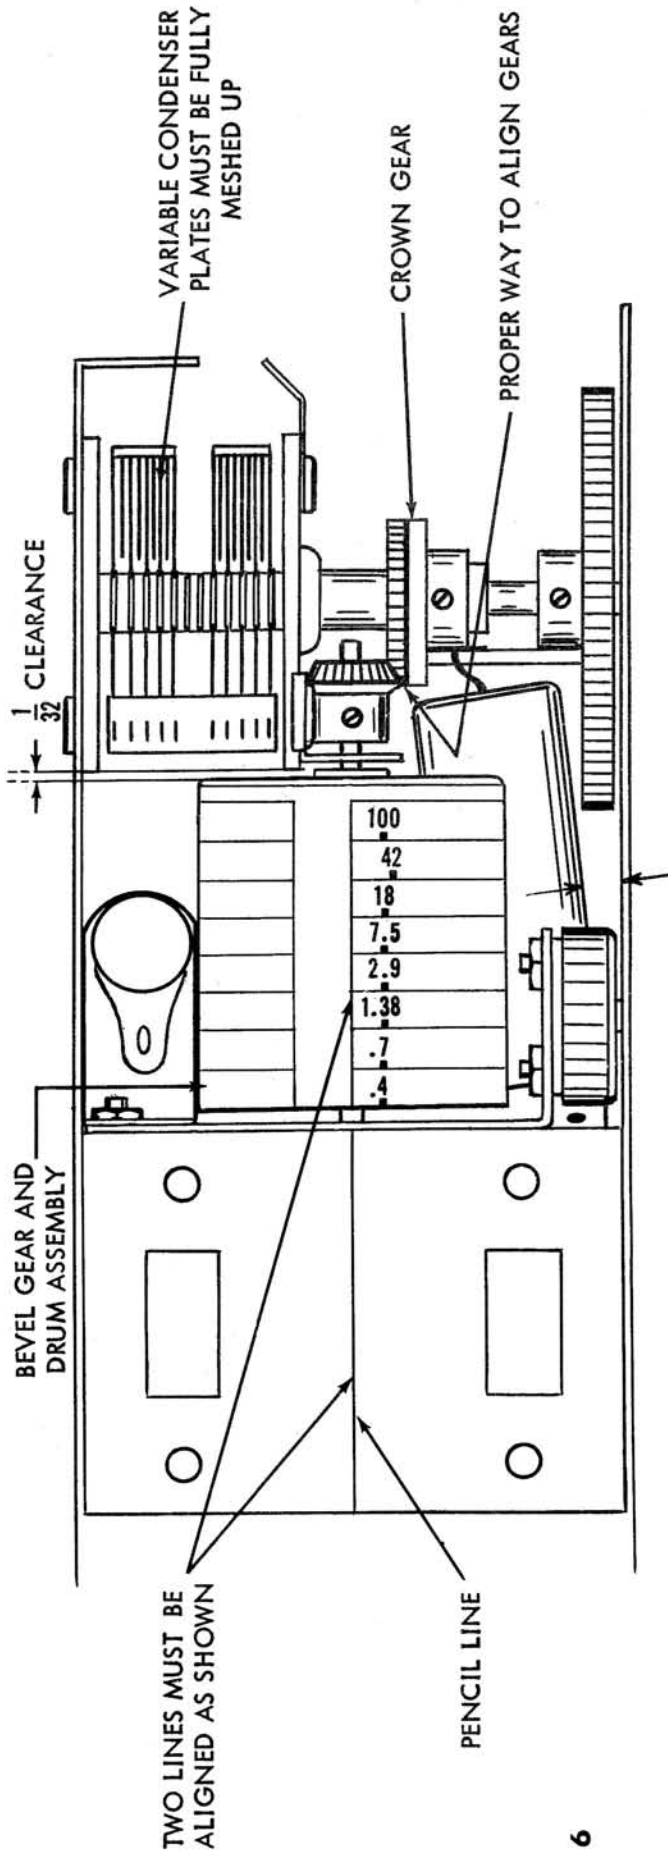
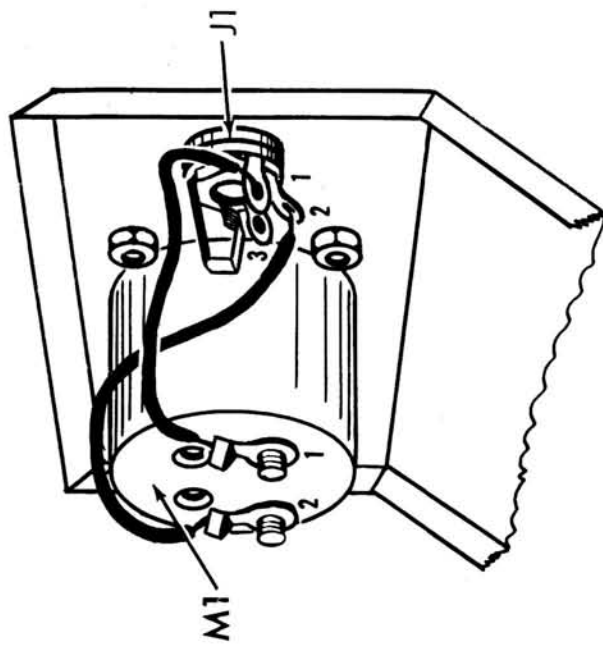

Fig. 6
Fig. 7
- ( ) 1. Fig. 6.  $1/8$ " from either edge of the top of the "U" shaped bracket, draw a line perpendicular to the variable capacitor. This is at the center of the bracket.
- ( ) 2. Fig. 6. Loosen completely the two screws holding the "U" bracket to the main chassis. The nuts should be held onto the screw with several threads.
- ( ) 3. Fig. 6. Push a spring over the thinner portion of the center axle inside the drum assembly. Do not force the spring over the thicker portion of the axle.
- ( ) 4. Fig. 6. With the left hand, push the "U" shaped bracket toward the 4 post terminal strip TB1, mounted on the main chassis. With the right hand, push the axle with the spring on the drum assembly, through the hole "R" in the "U" shaped bracket. See fig. 5 for location of the hole. The spring tends to push the drum assembly towards the variable capacitor.
- ( ) 5. Fig. 6. The capacitor plates must be fully meshed (maximum capacity). Push the drum towards the "U" shaped bracket so that the clearance between the frame of the capacitor and the body of the drum is  $1/32$ ". See fig. 6. Turn the drum so that the beginning of the scale, nearest the .4 mc marking, coincides with the line drawn in step 1, above.
Slip a crown gear over the  $1/4$ " shaft on the variable capacitor. Engage this with the small conical gear, "V", on the drum assembly. Tighten the set screw on the crown gear. Note that the pressure of the conical gear (on the drum) on the crown gear is the force necessary to keep the drum  $1/32$ " from the frame of the variable capacitor. When properly assembled, results will appear as shown in figure 6. Drum will rotate freely with  $1/32$ " axial play compensated by the spring. This is an example of a spring loaded, right angle gear drive which takes out the backlash.
- ( ) 6. Fig. 6. Slip the black tuning knob over the  $1/8$ " shaft on the variable capacitor. Do not tighten the set screw as yet.
- ( ) 4. Fig. 7. Connect a 3 1/4" piece of black wire from J1-2 (S1) to M1-2 (S1). Dress the wire close to the meter body and panel, as shown.
- ( ) 5. Fig. 7. Push the pilot light into the pilot light socket, X11. Place a shield over the pilot light bulb.
- ( ) 6. Fig. 7. Push the 6AF4A tube, V1, into the socket, XV1. The tube is positioned at a slight angle with the chassis, when it fits snugly in its socket.
- ( ) 7. Fig. 7. Unscrew the four screws holding the slide switches, S1 and S2. The panel is mounted to the "U" shaped bracket with these four screws. Slide the black tuning knob, previously mounted on the shaft of the capacitor, so that it fits through the slit marked tuning on the panel. Align the panel so that the inscribed line on the plastic plate, which appears in the center of the trapezoidal cutout, is directly over and parallel to the line used in step 5 referring to figure 6. Tighten the panel to the "U" shaped bracket and the slide switches, using the #4-40 screws just removed from the switches. All controls and both switches should move freely without rubbing or sticking.
- ( ) 8. Fig. 7. Center the black tuning knob in the slit and tighten the screw from the front side of the unit, next to the tube.
- ( ) 9. Fig. 7. Turn tuning knob. Note that it should rotate freely. If it does not, check point of friction. If it hits the side of the tube, bend the tube bracket slightly with a pair of long nose pliers. If it rubs against the electrolytic capacitor, push the capacitor out of the way, so that there is a 1/32" clearance.
- ( ) 10. Fig. 7. Solder the black wire from hole "5" to J1-3 (S1).
- ( ) 11. Fig. 7. Push a 5/16" rubber grommet through the hole in the short side of the cabinet.
- ( ) 12. Fig. 7. Push the end of the line cord with the tinned leads from the outside of the cabinet, through the grommet. Solder one tinned lead to S2-2 (S1) and the second tinned lead to TB1-1 (S2). See Fig. 3.
- ( ) 1. Fig. 7. Mount phone jack J1 as shown in figure 2. Use the lock-washer, flatwasher and hex nut supplied with the jack to secure it to the panel.
- ( ) 2. Fig. 7. If the meter you have has four mounting studs screws already mounted on the meter movement, push the meter through the holes and mount it with the four #4-40 x 3/16 hex nut. If your meter is of the type that does not have the four screws already mounted to its frame, push 4-40 x 5/16 screws through the four holes on the front of the meter. Secure the meter to the panel using four #4-40 x 3/16 hex nuts. Orient as shown. Note the front panel so that meter is mounted properly up and down.
- ( ) 3. Fig. 7. Connect a 2 1/2" piece of red wire from J1-1 (S1) to M1-1 (S1). Dress the wire close to the meter body and panel, as shown.